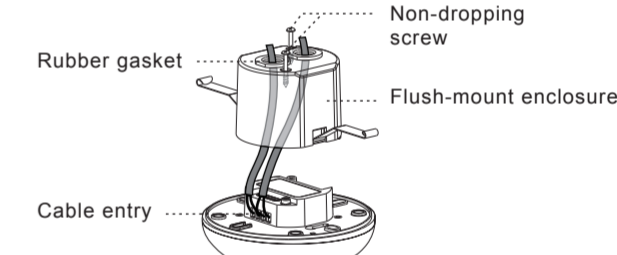

FIG.11
- 4.4.2.2 Use screwdriver to break the rubber gasket on flush-mount enclosure, then feed cables through it (See FIG.11).